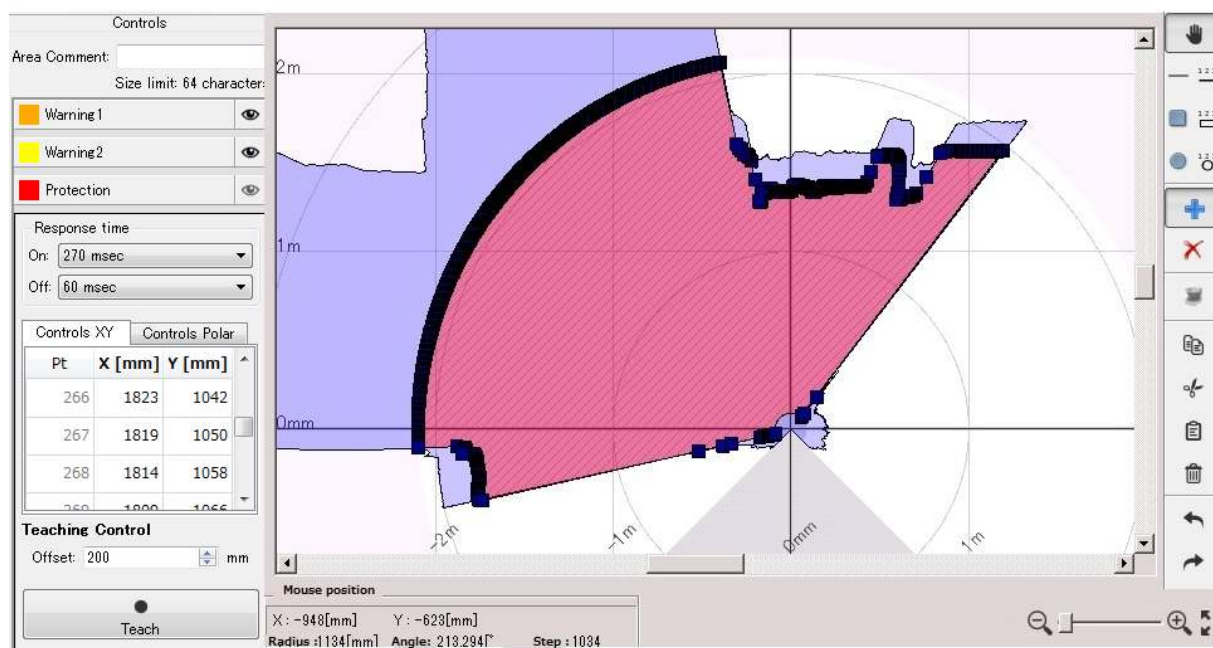

Figure 7-46 Area configured by teaching
- Obtaining the background data starts when the "Teach" button is clicked. Configured area will resemble the UAM's background. (Figure 7-46). When configuring the protection zone, if the background is not within the maximum detection distance it is set to maximum detection distance of UAM. In case of warning area, if there is no background within 20m from UAM it will be set to 20m.